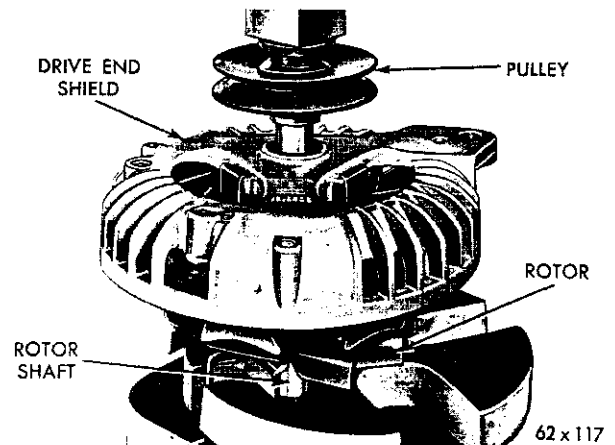

Fig. 76—Installing the Alternator Pulley
(8) Install the pulley on the rotor shaft. The shaft of the rotor must be supported in a manner so that all pressing force is on the pulley hub and rotor shaft (Fig. 76).